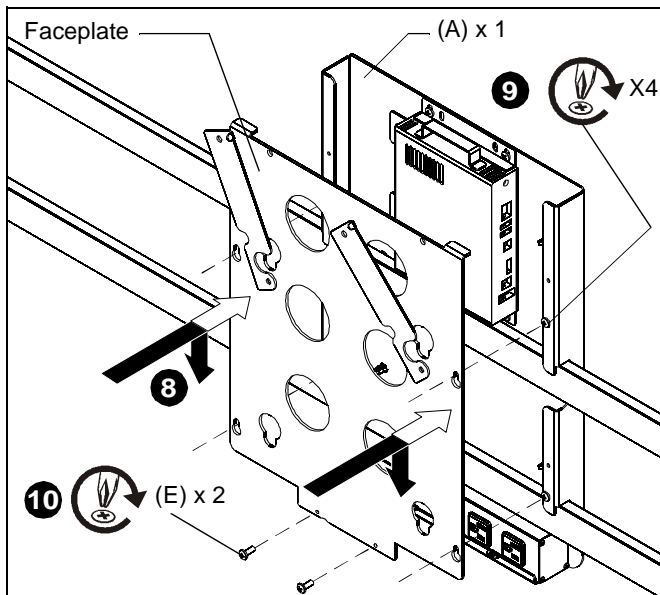

Figure 6
9. Re-install faceplate to mount assembly (A) by hanging faceplate on four Phillips pan head screws. Make sure screws are seated in teardrop mounting holes, and tighten all screws. (See Figure 6)
10. Install and tighten two 10-24 x 1/2" Phillips head screws (E) through bottom of faceplate. (See Figure 6)